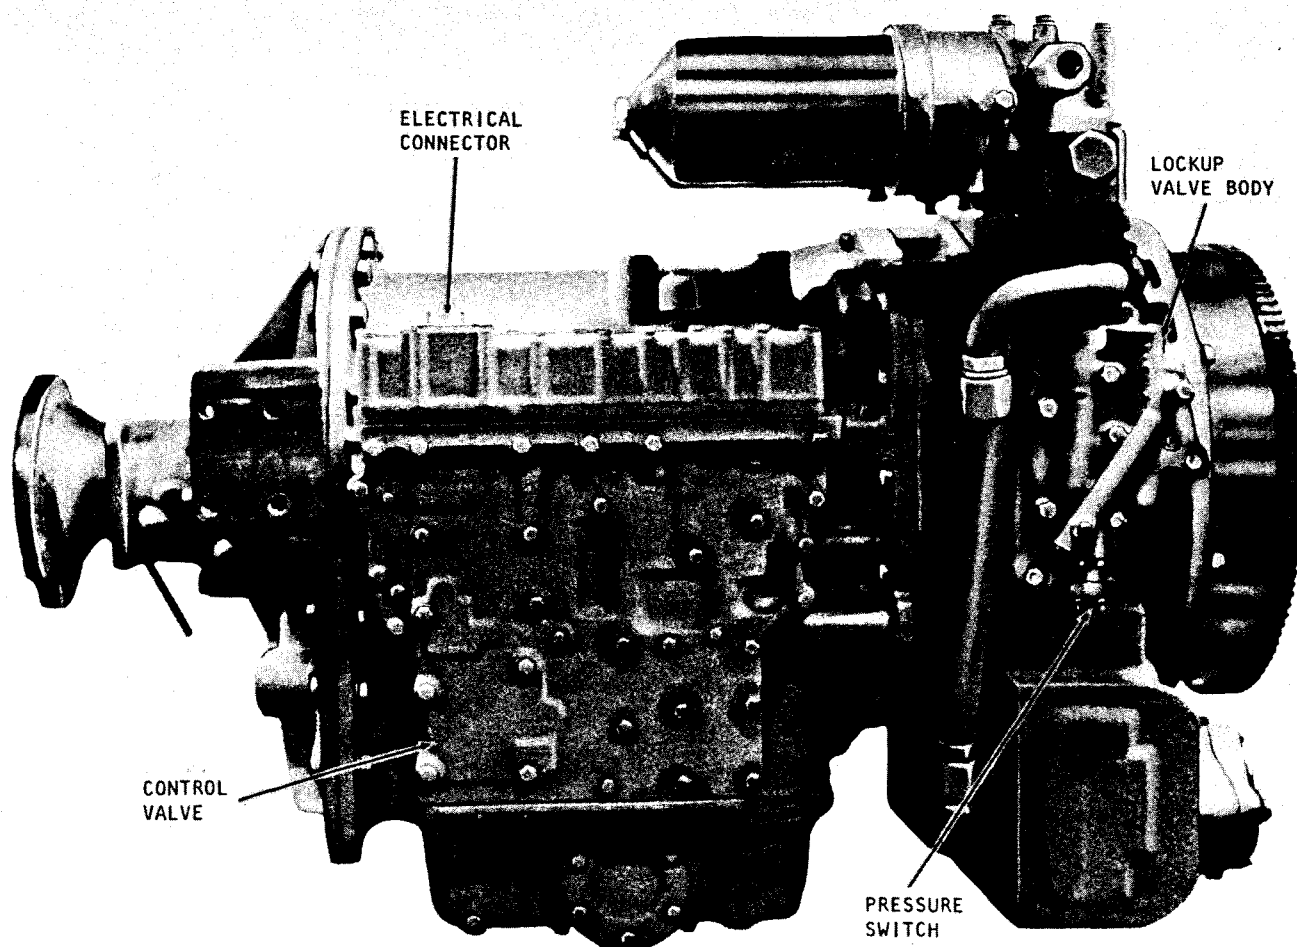

Fig. 1-1 Manual-electric valve body on 6000 series transmission
a. Optional Components. A manual-electric control system is used on some series 5000 and 6000 series transmissions. The system includes an electrically-controlled valve body and a pressure switch on the transmission (fig. 1-1), a manual selector
e. Appearance. Transmissions equipped with the manual-electric control system can be recognized by the 8-pin electrical connector at the top of the control valve assembly, and the absence of mechanical shift linkage. Figure 1-1 illustrates the valve assembly on the transmission.